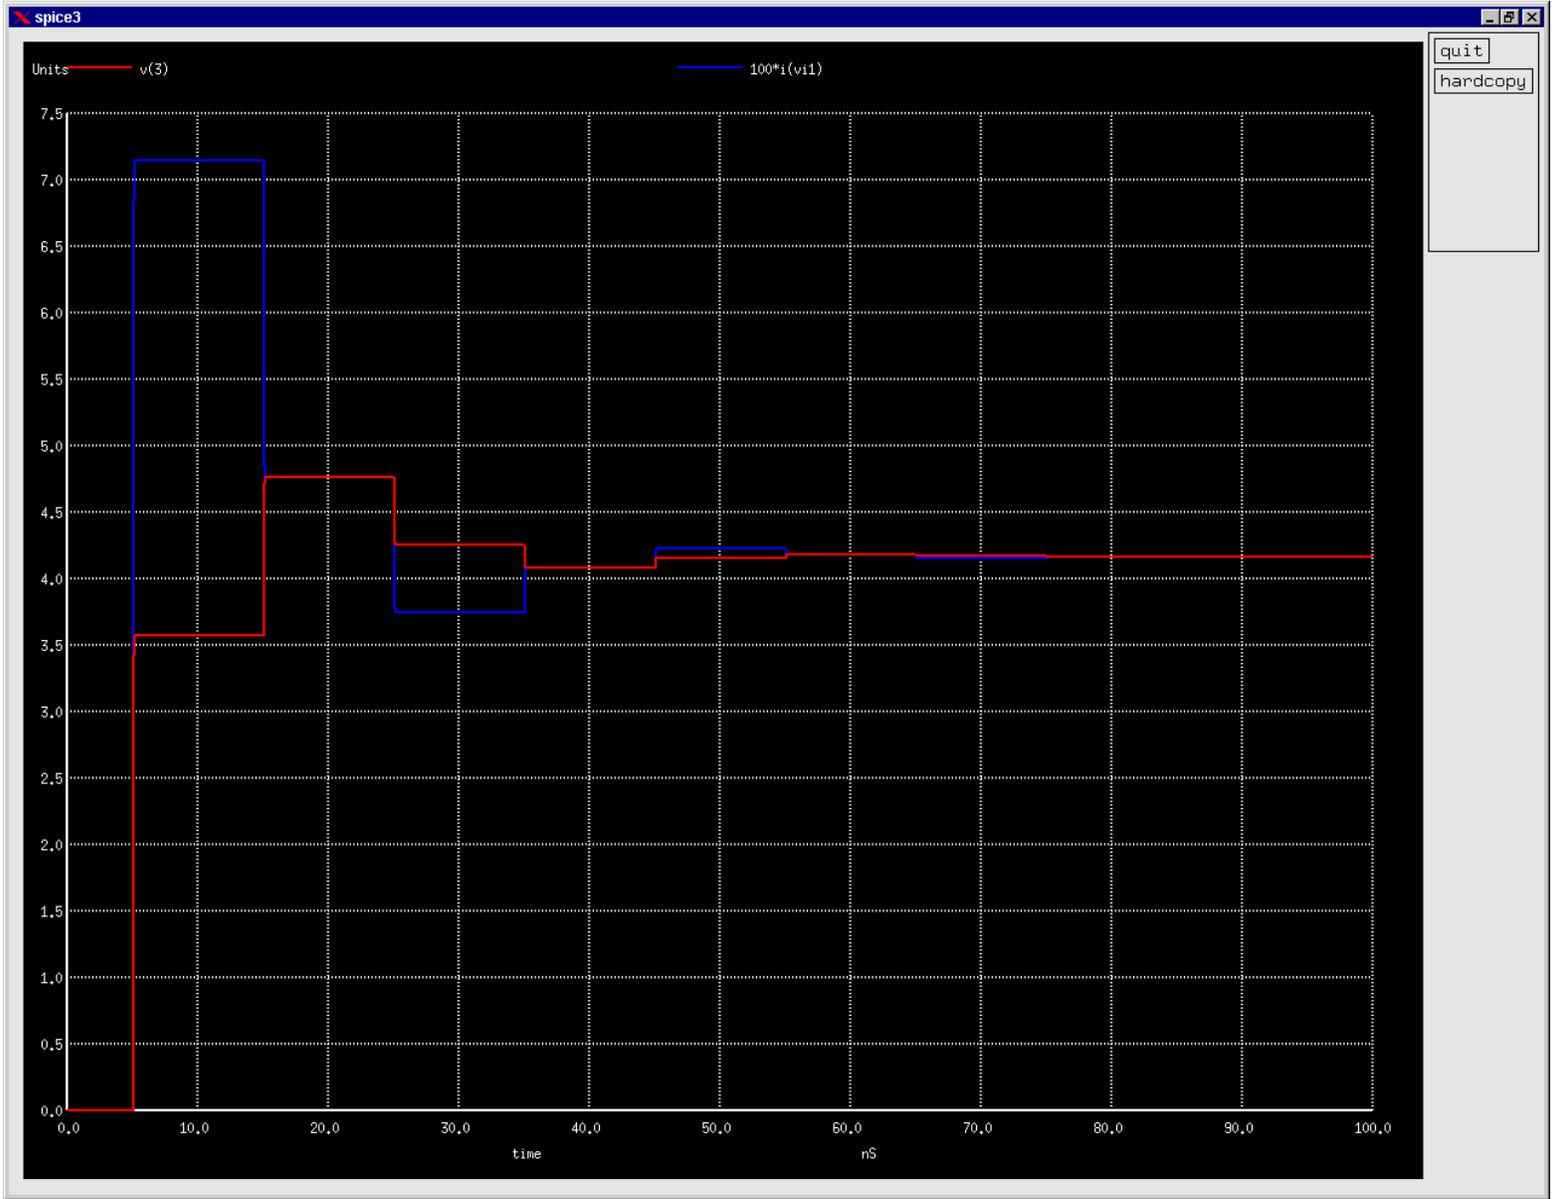

Fig. 5: Plot of voltage and current at midpoint of transmission line shown in Fig. 4 using Spice3 with the input file shown in Table 4.
and plotting the current and voltage at the center of the line (by command `plot v(3) 100*i(vi1)`) yields the curves in Fig. 5.